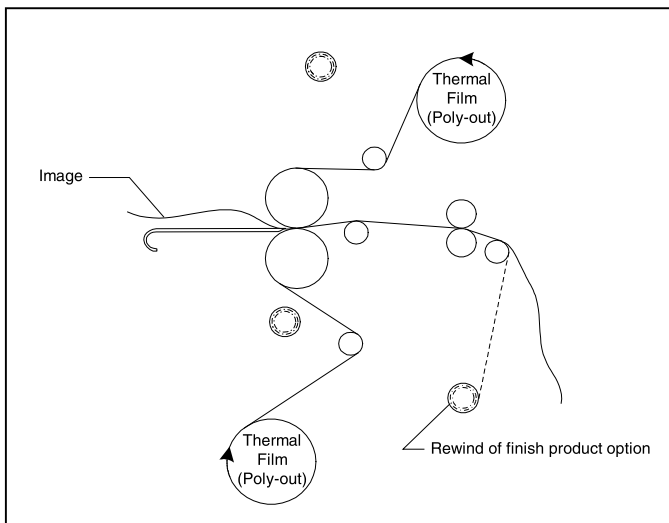

Fig. 44
2. Load the laminator as illustrated in Figure 44 for Poly-out film.